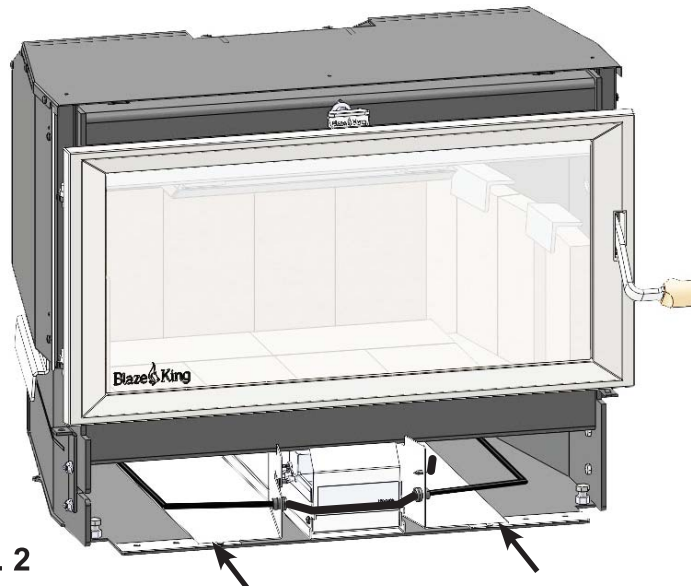

Fig. 2
2. Ensure fans have not shifted during transport and are in correct position, they should be in notch of fan mount guides. (**Fig. 2**)